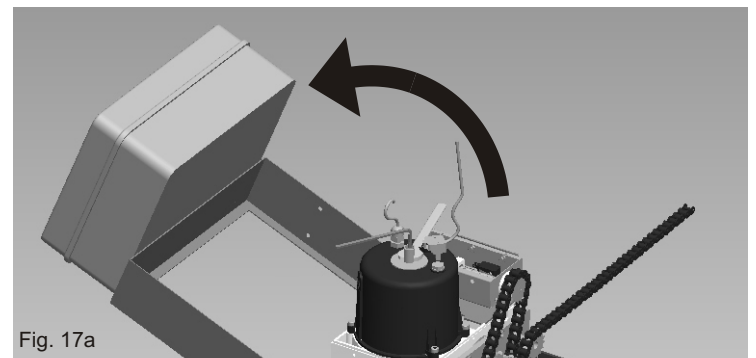

Fig. 17a
- Turn the stop of the electronic equipment as in Fig. 17a to act on the clutch with an hexagonal key.